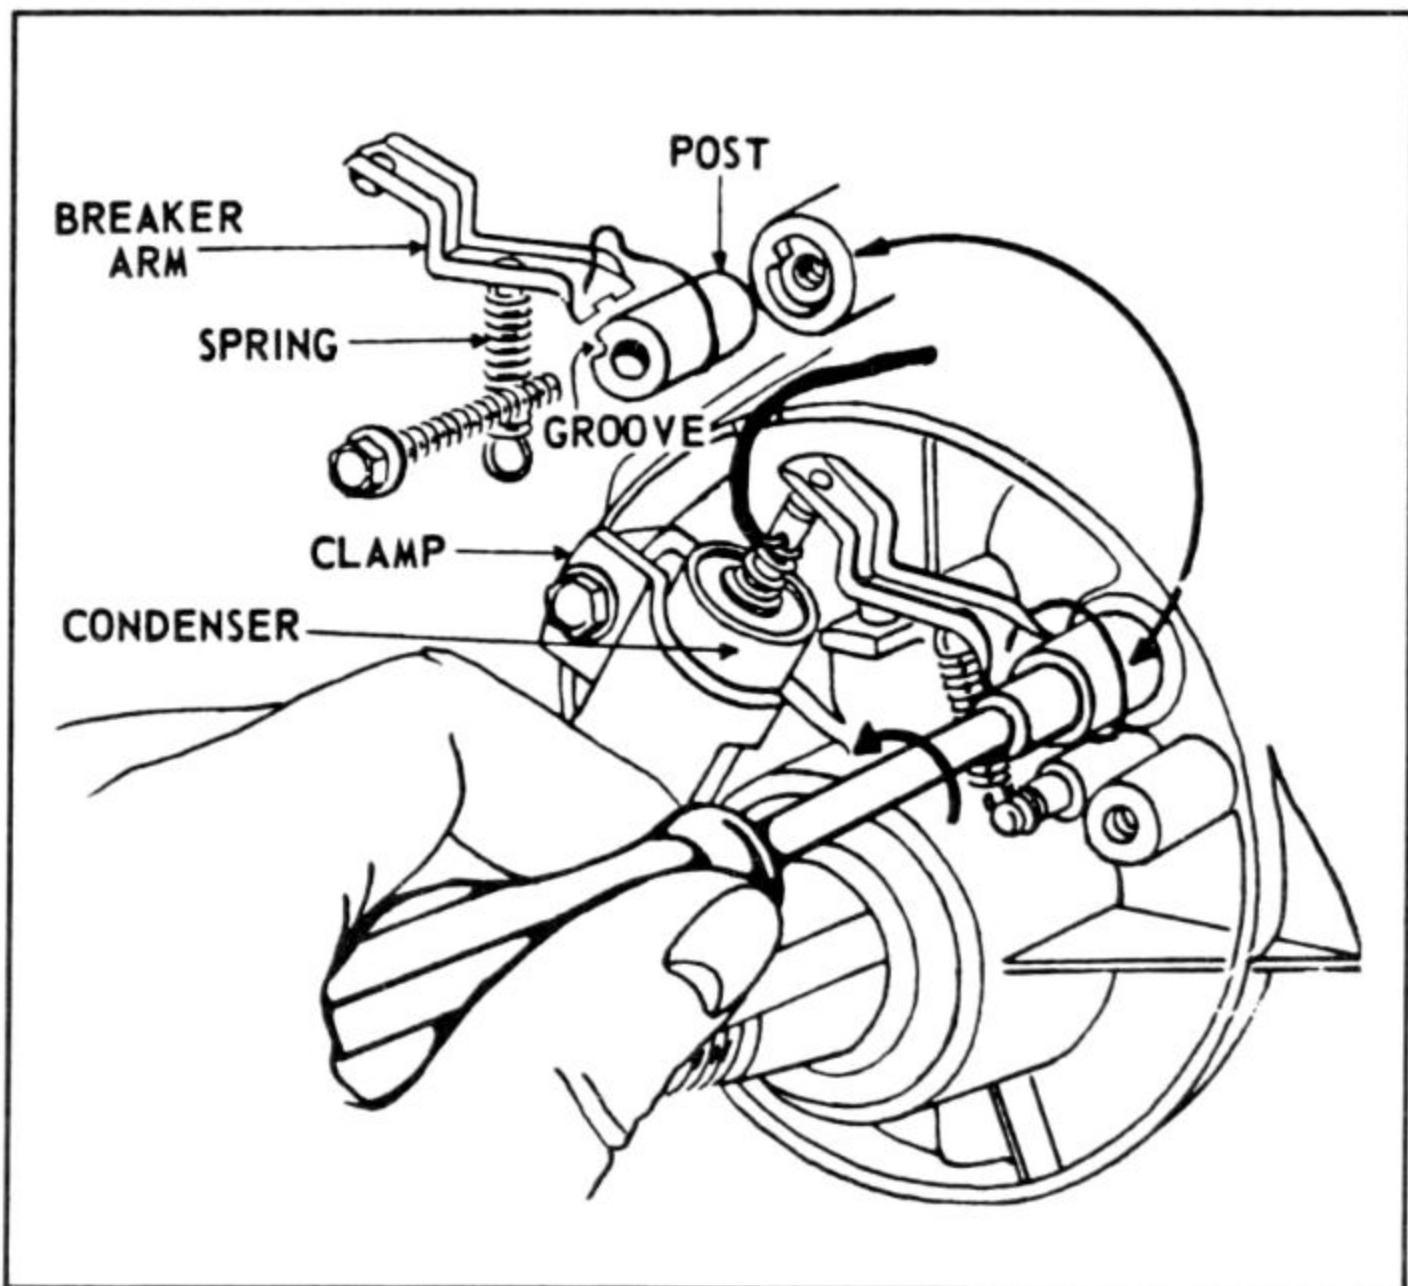
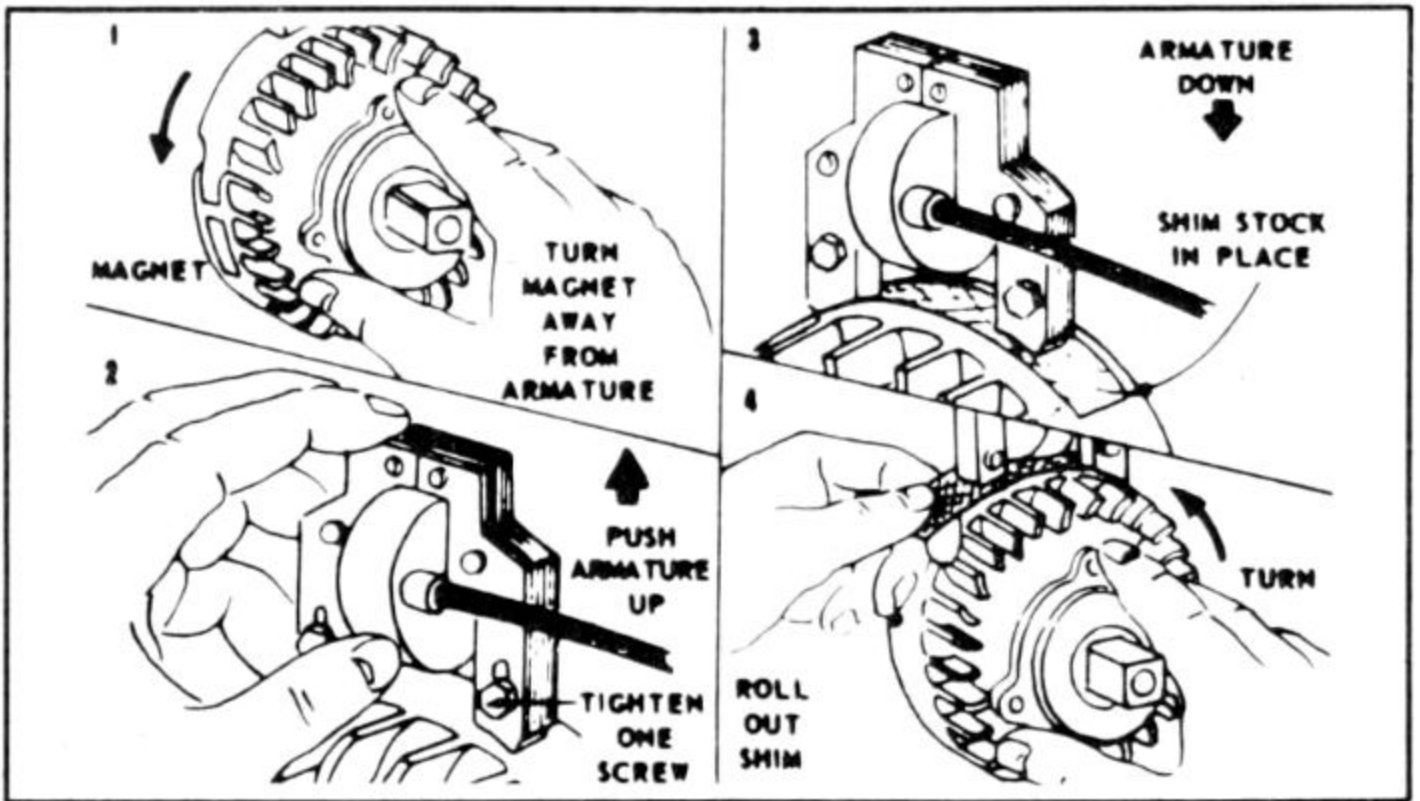

Fig. 2-25. Point disassembly for Briggs & Stratton light and medium frame engines. Note how the ground wire on the moveable point arm is routed.
Fig. 2-29. Briggs & Stratton coils mount outside the flywheel, simplifying air gap adjustment.
Step 2. Remove the condenser hold-down and point-support screws (Fig. 2-25).
Whenever the armature is disturbed on a magneto system, it is necessary to re-establish armature-to-flywheel (or rotor) distance. This distance varies with manufacturer and model, but is usually in the neighborhood of 0.006 of an inch to compensate for manufacturing tolerances, worn bearings, and thermal expansion. The traditional way to establish the air gap is to insert shim stock of required thickness between the flywheel (or rotor) and the loosely attached coil assembly (Fig. 2-29). Turn the crankshaft until the magnets are under the armature, tighten the armature hold-downs and remove the shim stock. A business card can be substituted for shim stock at some sacrifice in precision.
Magnetron Retrofit. Briggs & Stratton Magnetron CDI entered series production in August 1982, replacing the magneto shown in Figs. 2-25 through 2-28. The \$15 Magnetron kit, part No. 394970, can be used to update ignition systems in older, single-cylinder, aluminum block engines with the "two-legged" armature (as shown in Fig. 2-29). In addition, the kit is the replacement part for failed Magnetron units on cast-iron block, single- and twin-cylinder engines. First-time installation requires about an hour.